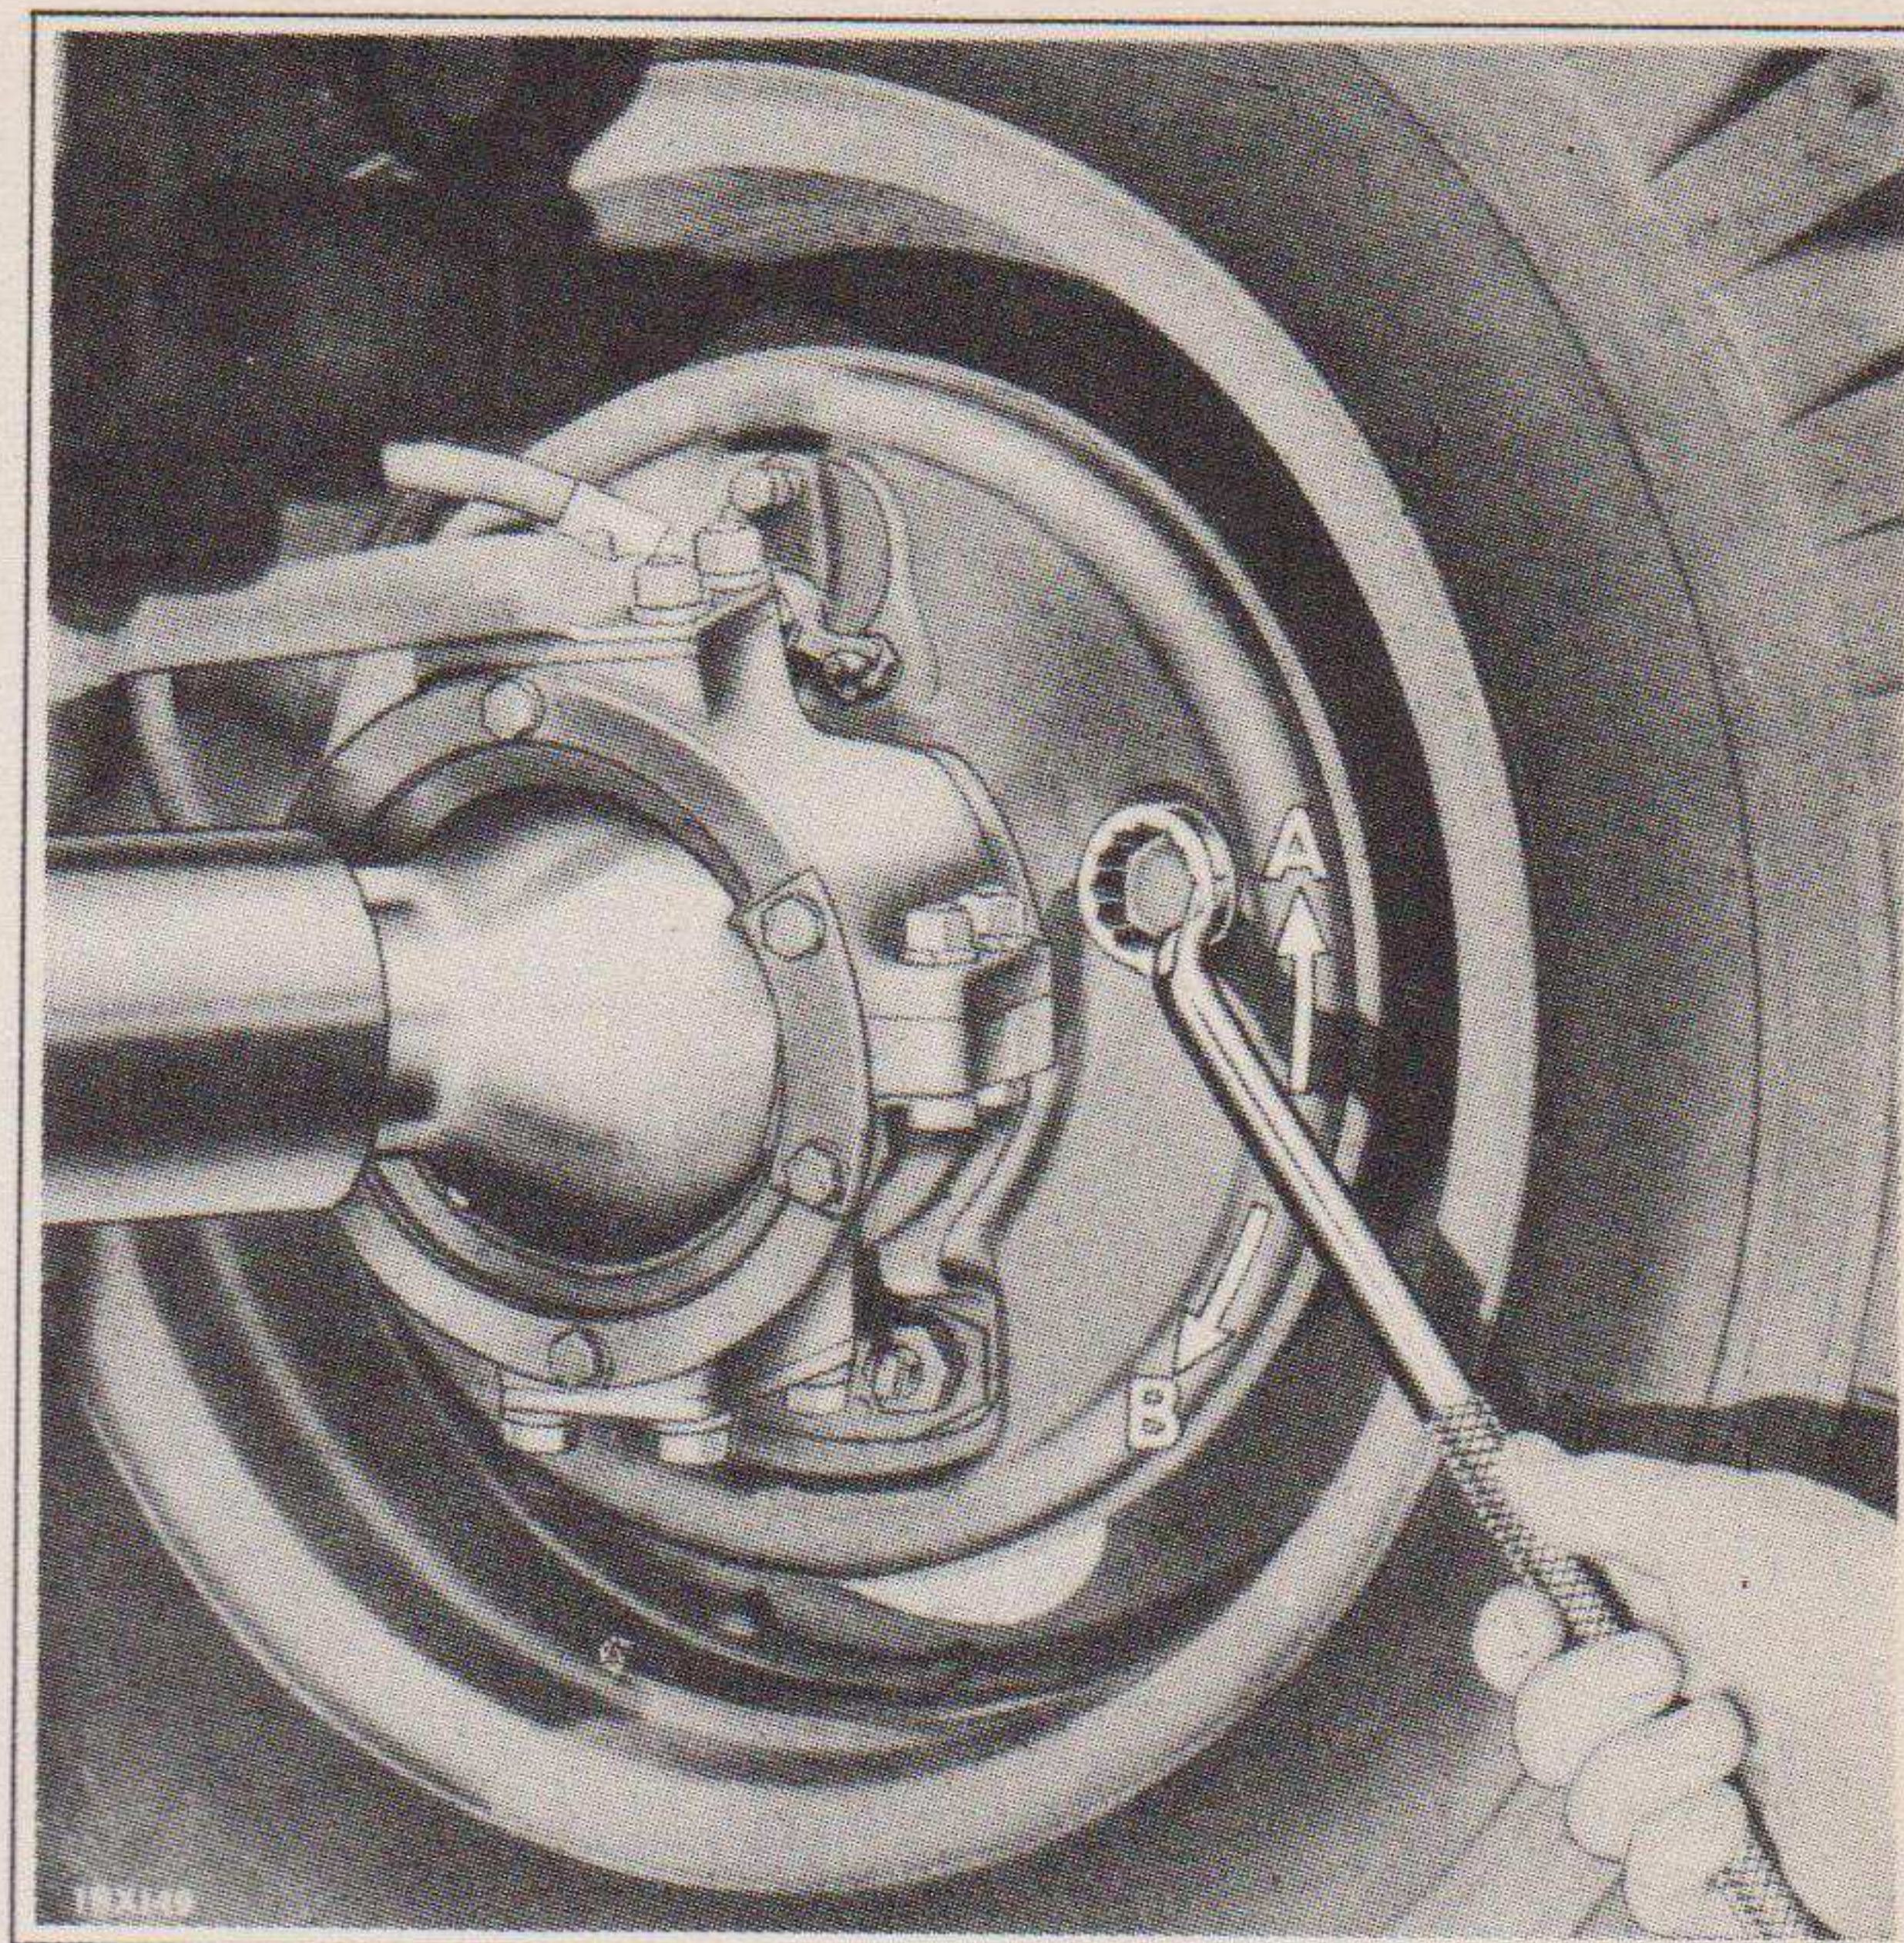

Fig. 71—Turning Brake Shoe Cams
- Turn the brake shoe adjusting cam (Fig. 71) until the front shoe lining is solid against the brake drum and the wheel is locked, then back off the cam until the wheel may be spun without interference.